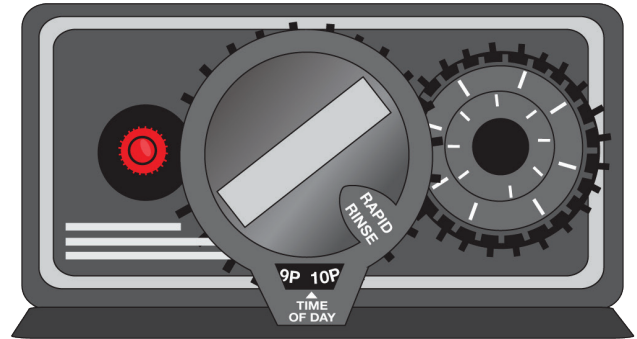

Figure 10 - Filter **RAPID RINSE** position
4. Rotate the control knob at the top of the filter tank **SLOWLY** clockwise to **RAPID RINSE** [See Figure 10] (between 4:00 and 5:00). Stop and leave it on **RAPID RINSE** for 2-3 minutes. Water will run out of the rinse line during this time.